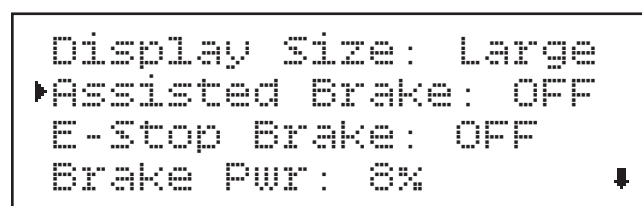

Figure 110. Lathe Settings submenu.
2. Press spindle speed dial to enter Lathe Settings submenu (see **Figure 110**).
3. Scroll down to Assisted Brake setting and press spindle speed dial to turn assisted braking **ON** or **OFF** (see **Figure 110**).
5. Scroll down to Brake Pwr setting (see **Figure 110**) and press spindle speed dial to enter Braking Power submenu (see **Figure 111**).